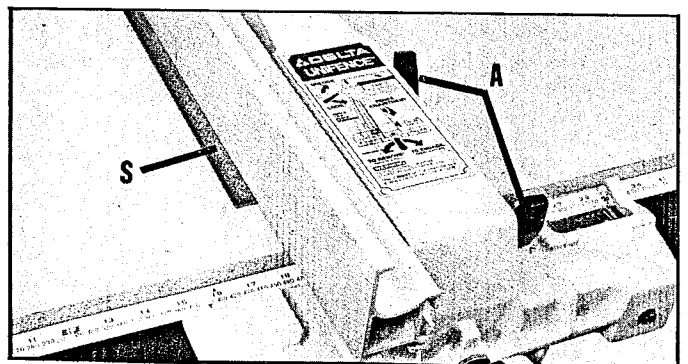

Fig. 41
6. For most normal ripping operations the bottom of the fence should be positioned slightly above the table surface. Place a thin material, such as a wood ruler (S) between the table and fence, as shown in Fig. 41, and tighten the two lock knobs (A).